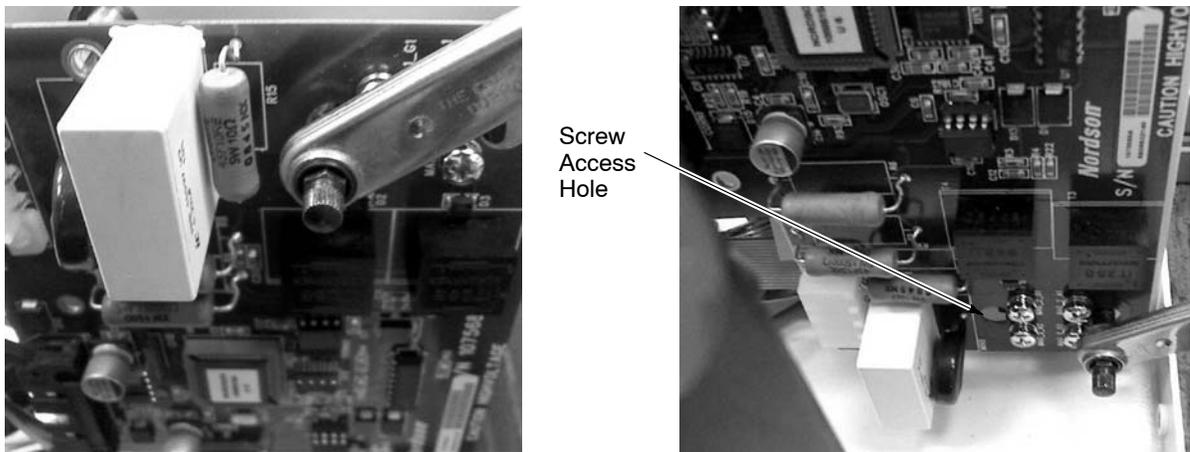

Figure 4 Remove four M4 Screws and Washers from the Front Side of the Phase Control Board
4. See Figure 4. Remove the four M4 screws and washers from the front side of the phase control board.